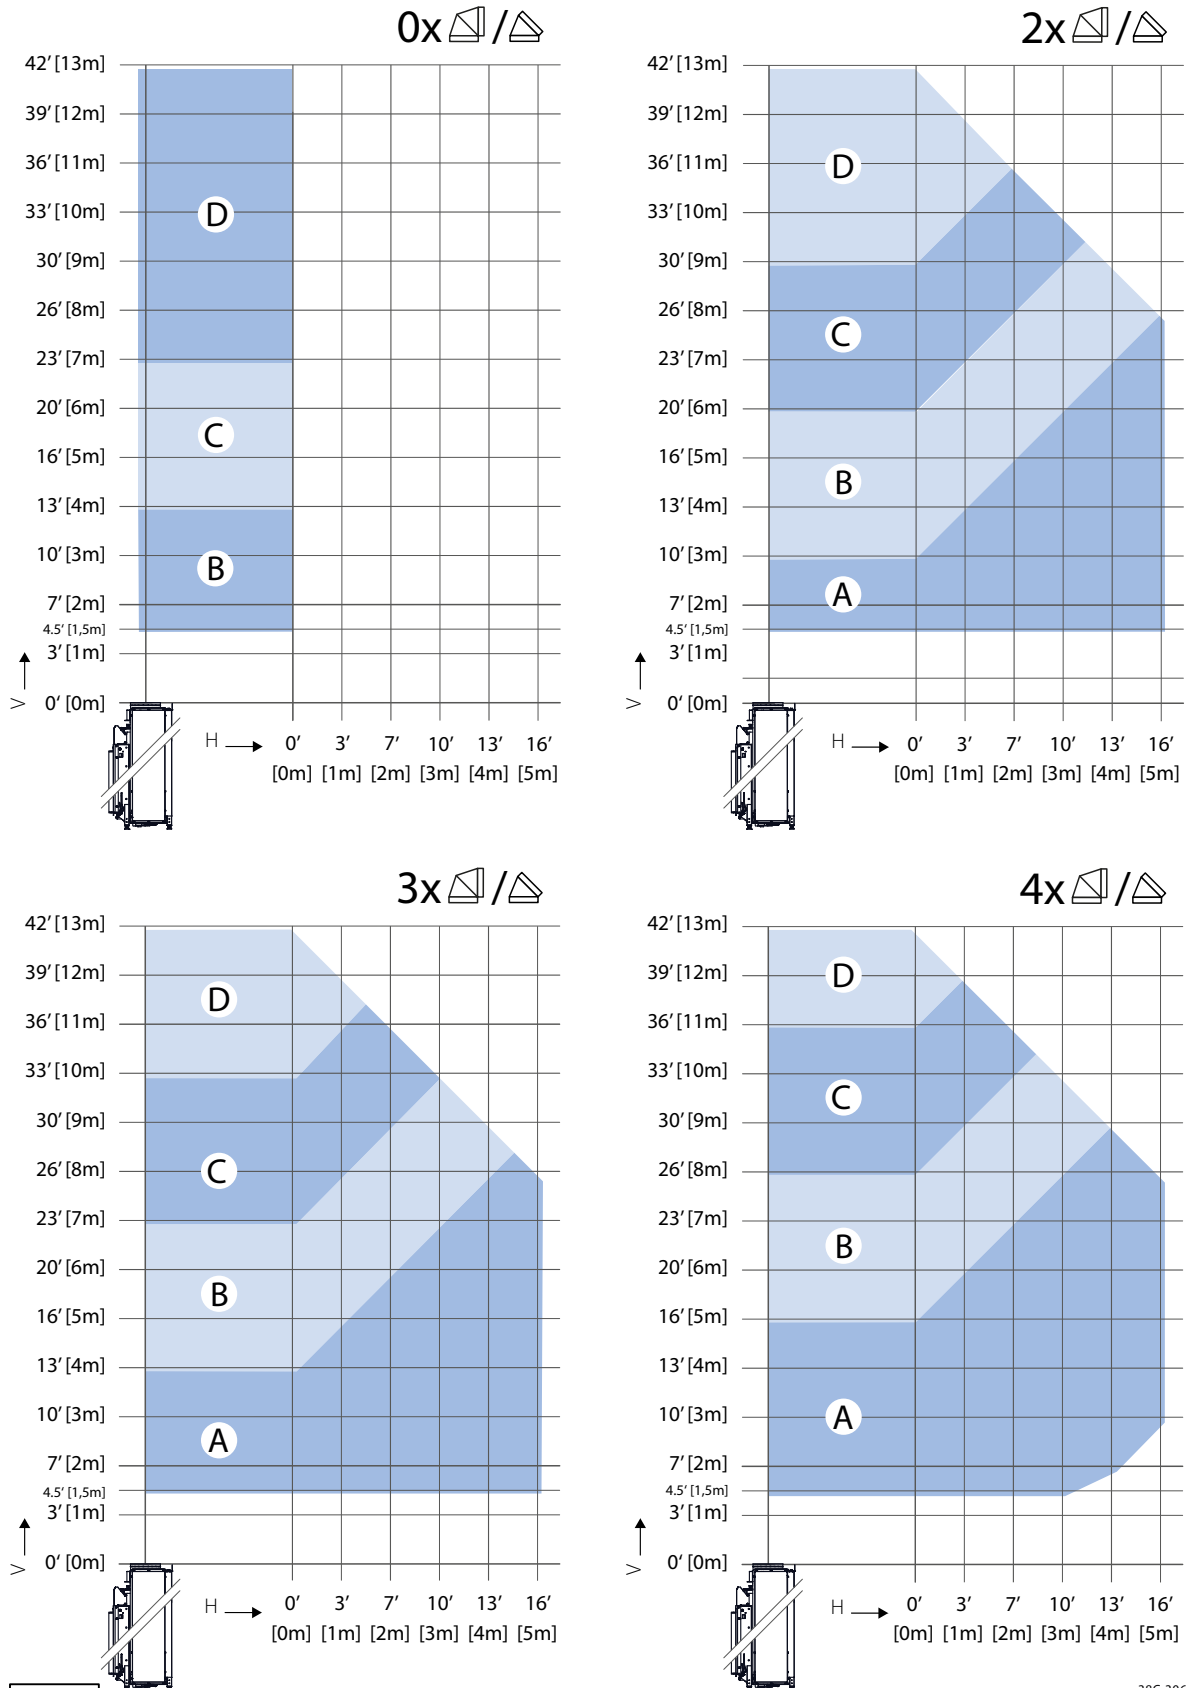

Fig. 8
Follow the instructions as outlined in section 10.2.2. Use the values and settings from Table 1 and Figure 8 instead of Table 10-2 and Figure 10-2.
- Open the valve of the burner pressure measuring nipple a few turns with a flat-head screwdriver and connect the pressure gauge (see Fig. 8, (2)).
- Disconnect the pressure gauge and close the valve of the burner pressure measuring nipple (2) (see Fig. 8).